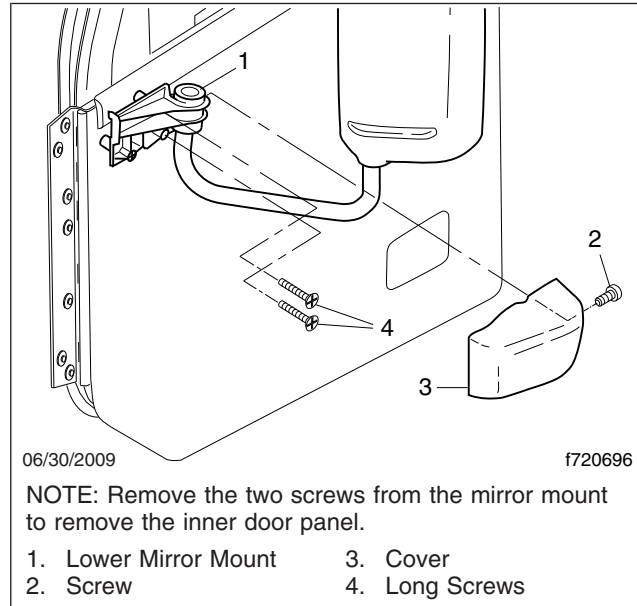

Fig. 2, Lower Mirror Cover
See Fig. 2.
4. Remove the two long aft screws that secure the lower mirror mount and inner door panel to the door. See Fig. 2.